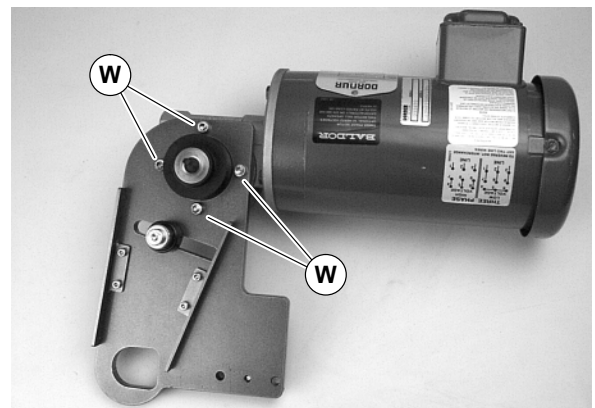

Figure 4
2. If required, change gearmotor position by removing four (4) screws (W of Figure 4). Rotate gearmotor to other position and replace screws (W). Tighten to 103 in-lb (12 Nm).